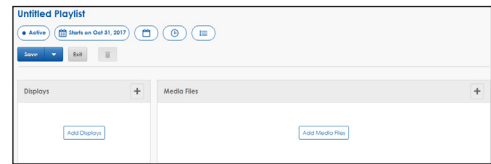

Figure 13: Creating a Playlist
2. Click **Add New**. The playlist creation window opens. Refer to **Figure 13**.